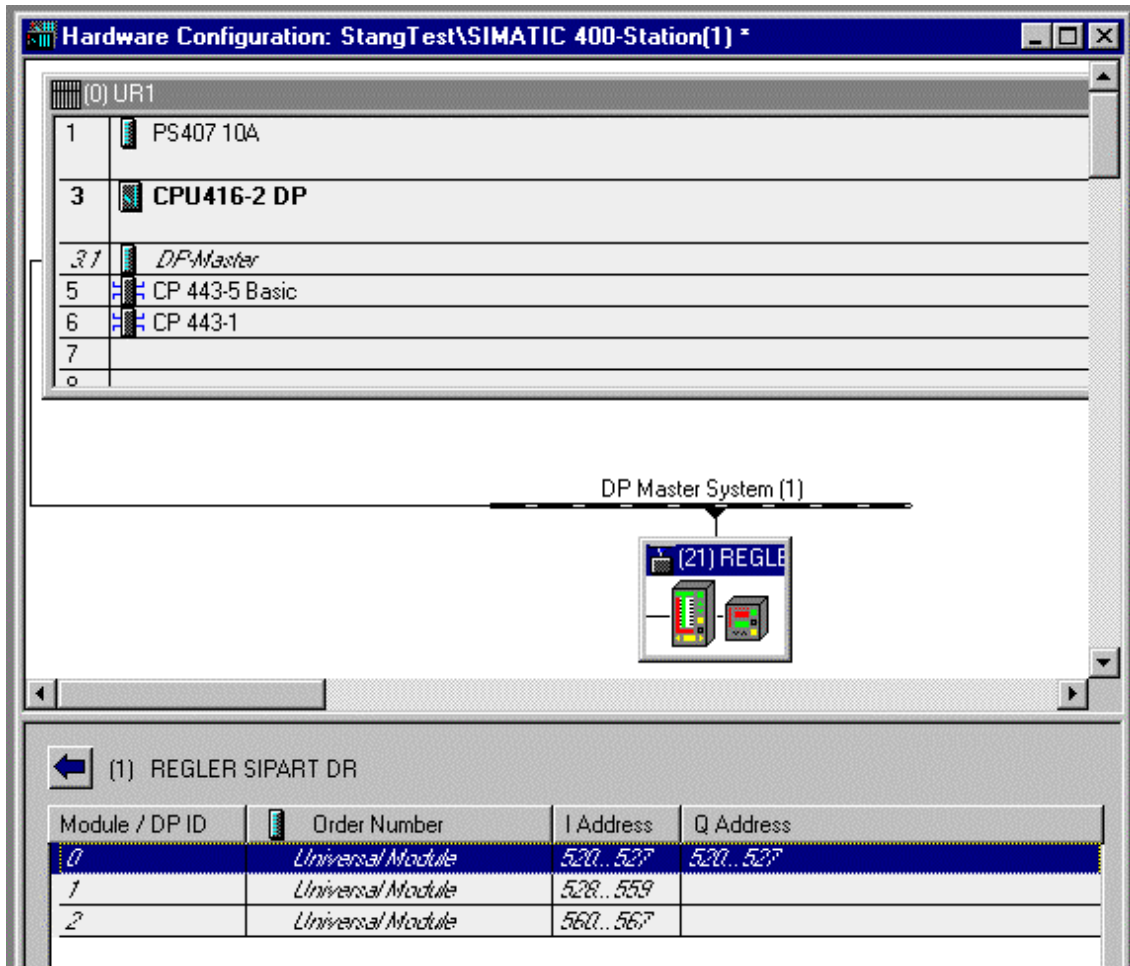

Figure 4
- All the settings are shown in Figure 4.